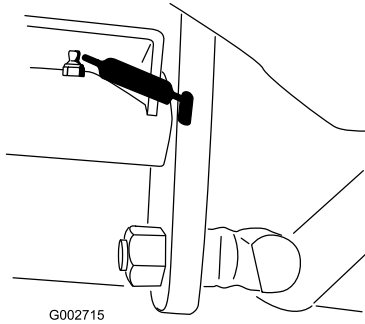

Figure 20
- Traction-pedal pivot (1) (Figure 20)